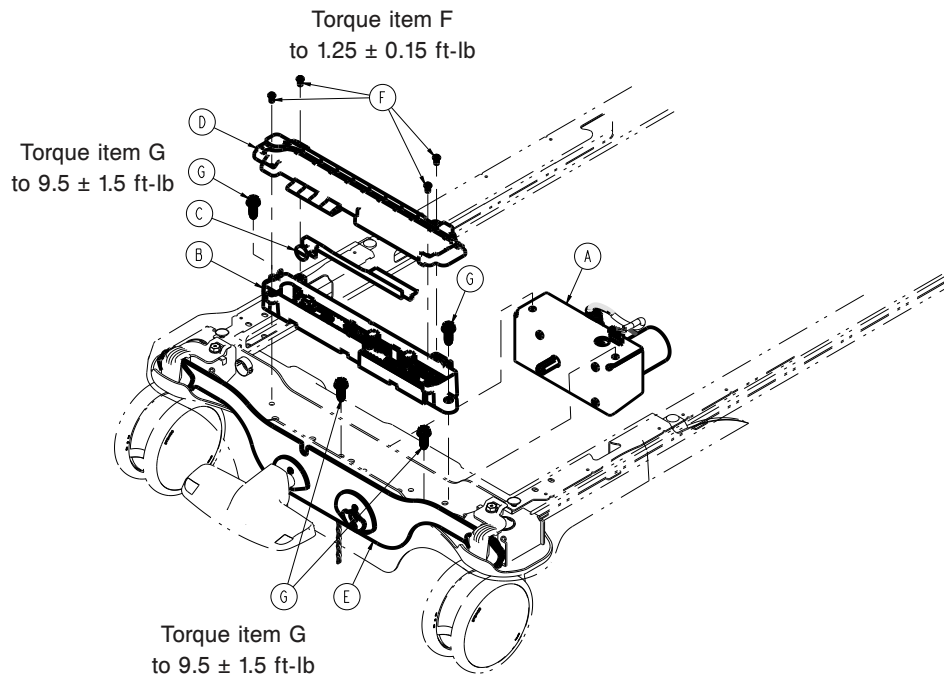

Figure 34 – Electric brakes option
6. Using a T10 Torx driver, remove the four screws (F) that secure the brake control board top enclosure (D) to the brake cam enclosure assembly (Figure 34). Remove and save the top enclosure. Save the screws.
10. Using a ratchet and 1/2" socket, remove the two bolts (G) that secure the brake cam enclosure assembly to the base frame (Figure 34). Save the bolts.
10. Using a ratchet and 1/2" socket, remove the two bolts (G) that secure the brake cam enclosure assembly (B) to the base frame (Figure 34). Lift up out of the way.
11. Using a ratchet and 1/2" socket, remove the two bolts (G) that secure the brake motor assembly (A) to the base frame (Figure 34). Pull the motor assembly toward the foot end to remove.